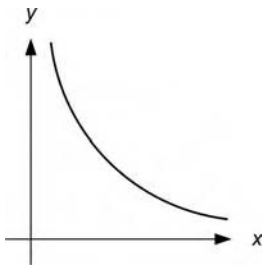

Figure 2.52
75. Which of the following relationships is represented by the graph shown in Figure 2.52? [A, B1, B2]